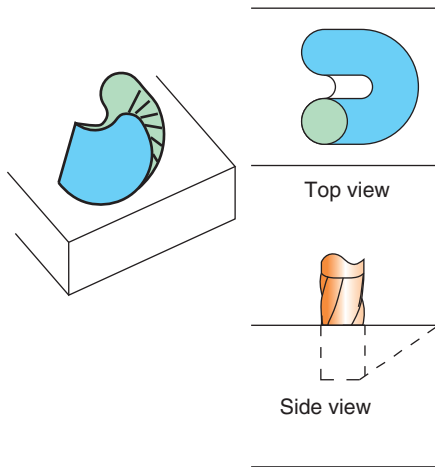

Figure 17-49 What kind of CNC control can make a spiral ramp, 2-D, 2 $\frac{1}{2}$ -D, or 3-D?
4. The move illustrated in Fig. 17-49 is called a *helical ramp plunge* or a *spiral ramp*. It is used in CNC milling to plunge down into the work to start milling a pocket. What type of control is needed to perform such a move? Referring to your manual milling machine skills, why would the illustrated move be superior to straight plunging and to a linear down ramp? This is a critical thinking question not directly covered in the reading.